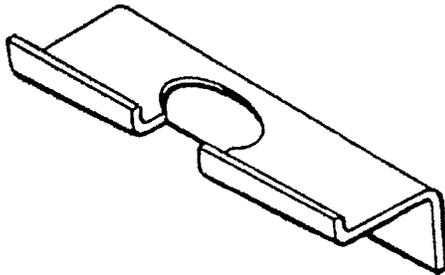

Figure 5-8. Hammer/Mallet Holder
- h. Hammers and mallets are stowed on hammer/mallet holder brackets (Figure 5-8) in "F" and "G" cabinets.